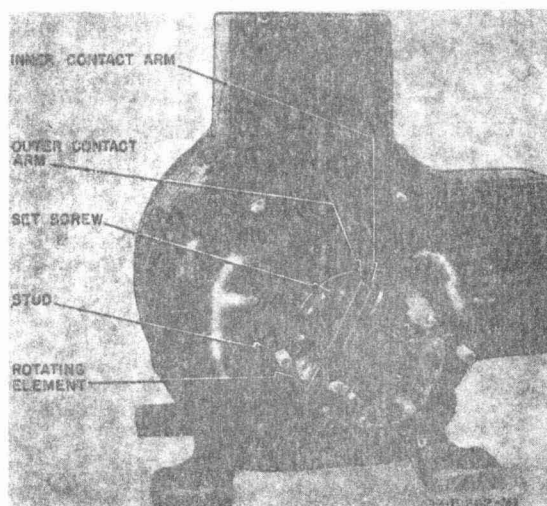

FIG.1 KS-5485 INVERTER WITH SPEED REGULATOR COVER REMOVED
6.23 Speed Regulation: KS-5485, L31-L34 Machines (See Fig. 1)